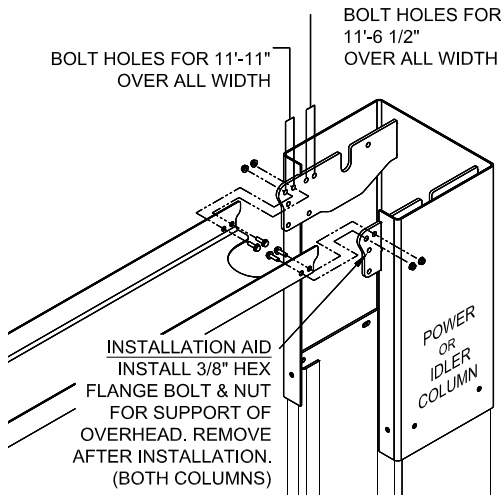

Fig 4 – Overhead Assembly
- 12) Before raising overhead into position install 4 each (2 per column) hex flange bolts and nuts in middle hole of column extension (see **Fig 4 Installation Aid**) for temporary support of overhead. Lift overhead assembly up into position and install with 8 each (4 per column) 3/8-16 x 3/4" lg hex flange bolts and hex flange nuts per side as shown in **Fig 4**.